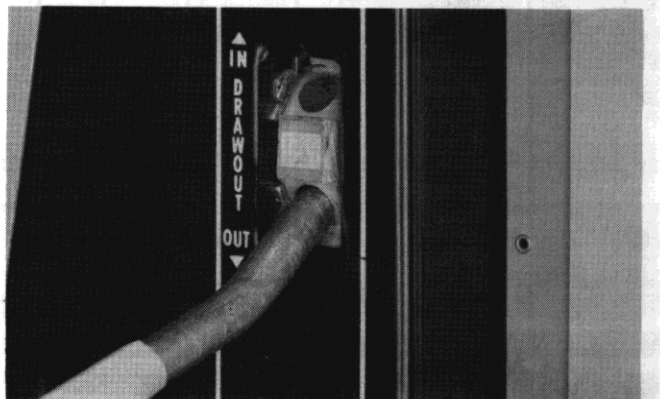
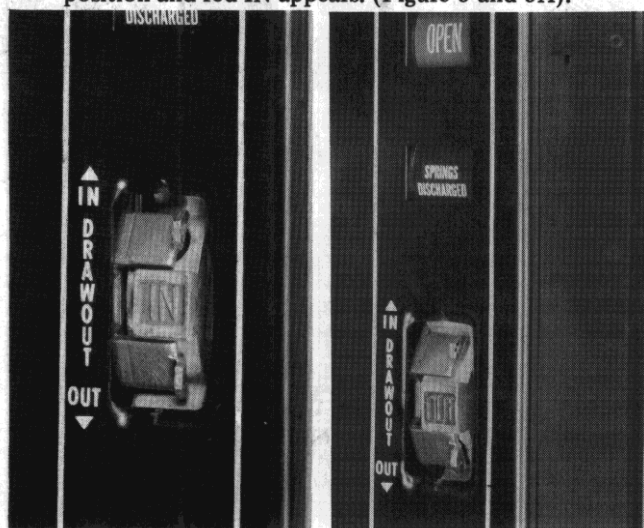

Figure 8
Figure 9 & Figure 9A
12. Push **drawout** interlock to left, insert **drawout** lever 1101-9251, (Figure 8) into the bottom hole of the **drawout** mechanism and, with an up-stroke, rack breaker into the **TEST** position. Remove **drawout** lever, **drawout** interlock plate should snap into position completely covering the holes.
15. To put circuit breaker into service push **drawout** interlock to left, insert **drawout** lever in the bottom hole of the **drawout** mechanism (Figure 8) and **with** an upward stroke rack breaker into operating position. Remove **drawout** lever, interlock plate should **snap** in position and red **IN** appears. (Figure 9 and 9A).